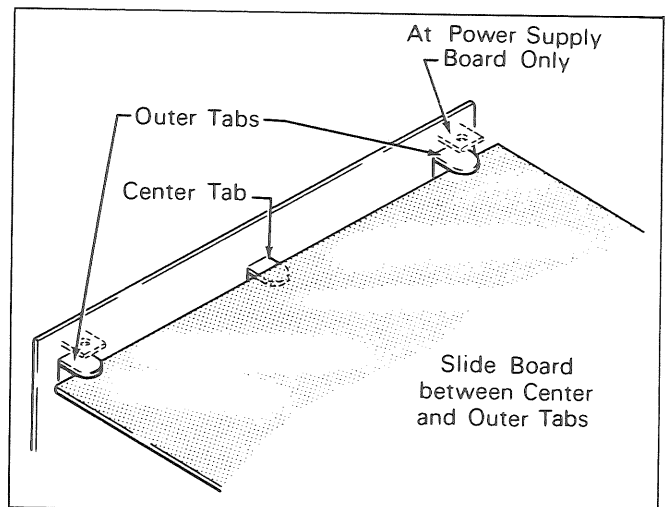

Fig. 6 Typical support arrangement at rear edge of circuit board
8. When replacing this board, be sure board is sandwiched between the center tab and two outer tabs on the chassis at the rear edge of the board as shown in Fig. 6.
5. When replacing board, make sure rear edge of board is sandwiched between the center tab and two outer tabs of the chassis, per Fig. 6.
4. When replacing board, make sure rear edge of power supply board is sandwiched between the center tab and outer rounded tabs (not the square tabs) on the chassis per Fig. 6.